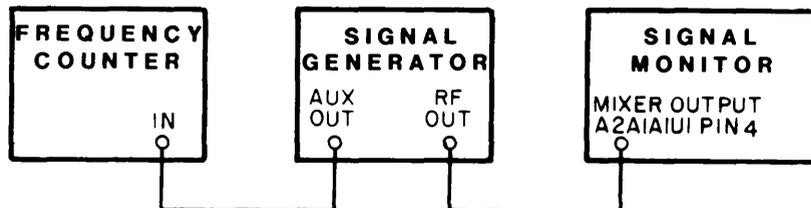

Figure 4-5. Test Setup, 12.7 MHz IF Amplifier Alignment
- (1) Connect the equipment as shown in **Figure 4-5**.
- (2) Set the signal monitor front panel controls as follows:
- (3) Remove the local oscillator input cable at A2A1J3.
- (4) Set the signal generator to 12.7 MHz, CW, at a level just sufficient to cause the baseline on the CRT to shift upward about half scale.
- (5) Adjust the following components for maximum vertical deflection of the baseline while reducing the signal generator output level to maintain the trace on the screen. Readjust to obtain maximum gain.